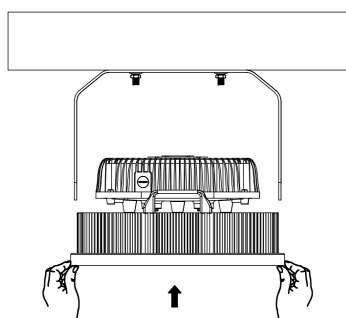
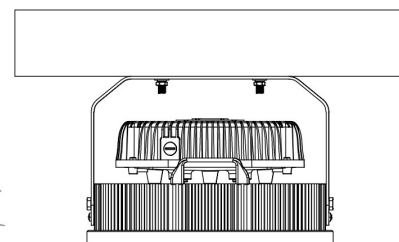

FIG.22
FIG.24
- 3) Install fixture onto the U shape bracket, adjust the angle, tighten screws with screwdriver and wrench. (See FIG.22 to FIG.24)